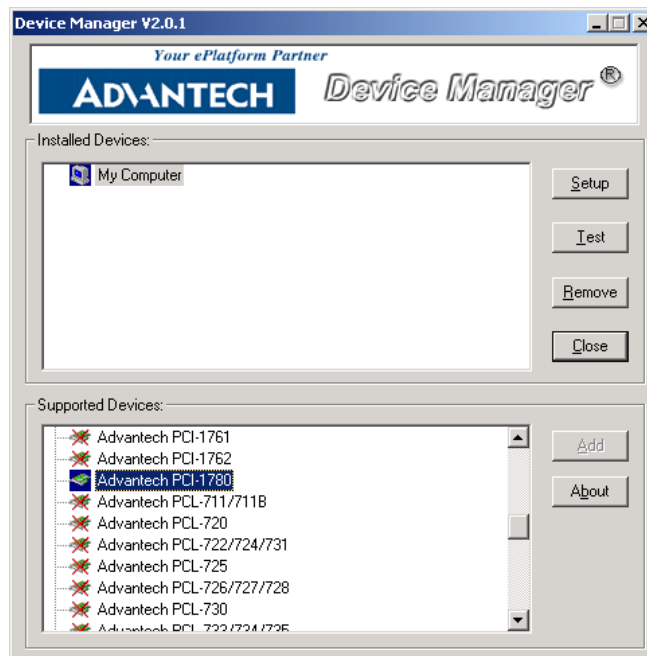

Fig. 2-4 The Device Manager dialog box
Step 2: You can then view the device(s) already installed on your system (if any) in the *Installed Devices* list box. Since you haven't installed any device yet, you might see a blank list such as the one below (Fig. 2-4).